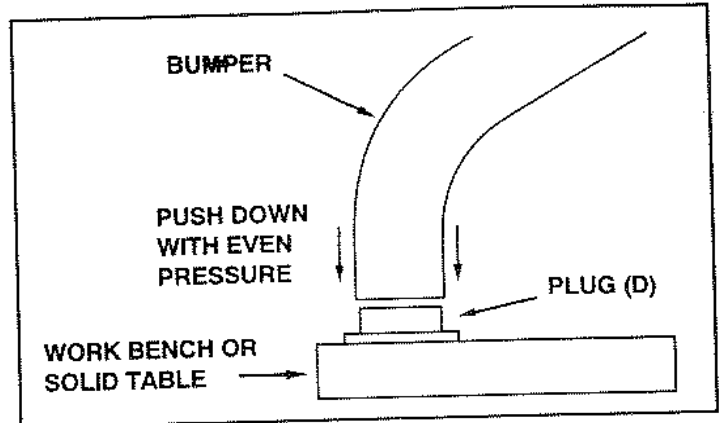

FIGURE 1
1. Place the plug on a work bench or a solid table. Set the end of the bumper onto the plug so that it rests on the short step of the plug. Using even pressure, push down on the bumper tube until the end of the bumper slips over the plug. See figure 1. Repeat for the other end of the bumper.